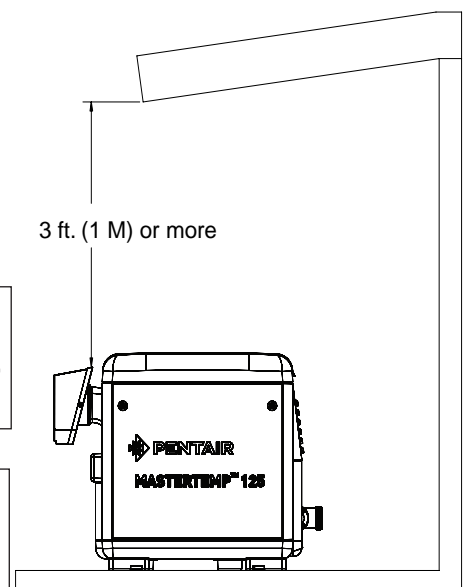

Figure 8.
If the heater is located under a roof overhang, there must be at least three (3) feet (1m) of clearance between the bottom of the overhang and the top of the heater exhaust vent, see Figure 8. If the heater is under a roof overhang, the space around the heater must be open on three sides. **DO NOT, under any circumstances, install the heater under ANY deck.**
For minimum exhaust vent clearances for all building openings, including but not limited to vented eaves, doors, windows, gravity air inlet, see Figure 8, page 17.